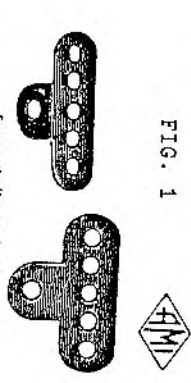
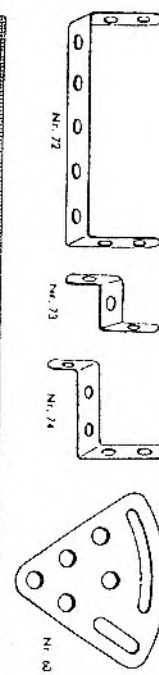

FIG. 1
FIG. 5
**Brackets** Märklin, and Ami/Lac (Italy) which borrowed from Märklin as well as from Meccano, and which are both Meccano-compatible, have #116 and #116a brackets with half-pitch hole spacing (Fig.1). Merkur (Czechoslovakia), of metric pitch and not Meccano-compatible, has a flat corner brace #37, four holes at half-pitch in each arm, a useful design (Fig.2). Lynx (U.K.) has a 5-hole bracket like a bell crank without boss, but with the ends turned up at a right angle, good in a tight corner (Fig.3). Condor (Italy) has a #45 flat bracket 3 holes long, widened at the middle into 3 holes at half-pitch (Fig.4); several systems have single-ended versions of the same device. Benco (Germany) has some nice bits: a #60 "cam triangle" 4 holes long on each side; a #69 double bent strip like a cross between Meccano #45 and #48, and a #71 double angle strip 2x3x2 holes (both of these last two now available as Meccano-compatible specialties from Bernard Maillet, Carbon-Blanc, France); and threaded rods, #62 with an eye at the middle, #63 a long eyebolt (all of these, Fig.5).